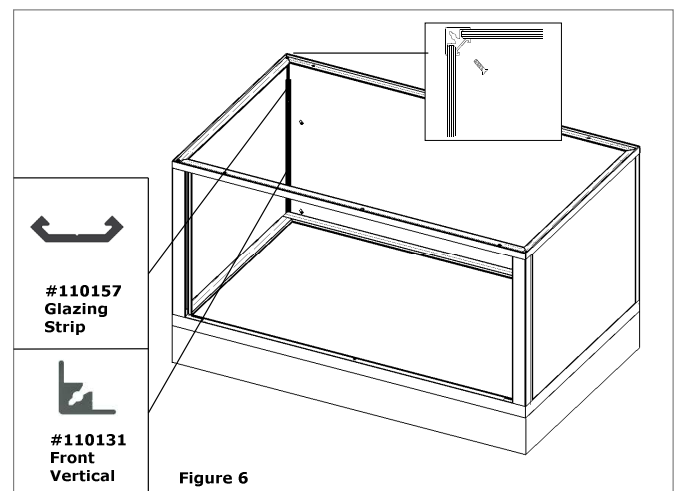

Figure 6
17. Glazing strips hold the glass to the front vertical posts. Attach the aluminum glazing strips to the post using #6 flat head screws (accessory #510204). Attach to post so the felt side is facing in, if attached so the metal side faces in, it might cause the glass to crack. **See Figure 6.**